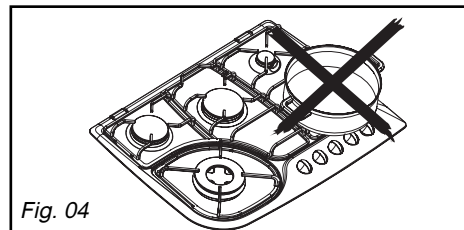

Fig. 04
– Do not use cookware that partially covers the knobs (Fig. 04).